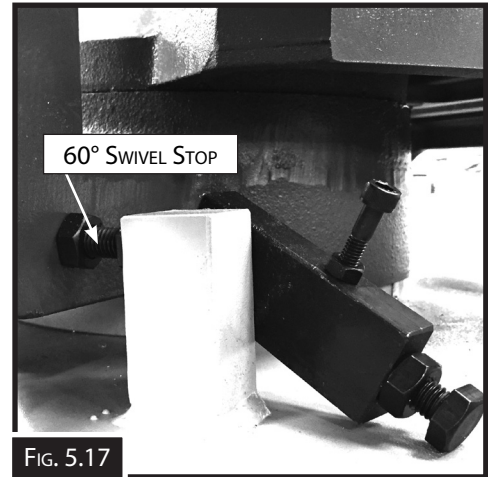

FIG. 5.17
3. Flip the 45° stop over so that the 60° stop is exposed (Fig.5.17)
5. Check that the 60° head stop is hard up against the casting. If there is a gap between the casting (Fig. 5.17) and the stop screw, then loosen the lock nut and adjust the stop bolt until it rests against the casting.
7. Take a cut and check the angle with a square. If the finished cut is not correct then loosen the lock nut and adjust the stop accordingly. (Fig. 5.17)